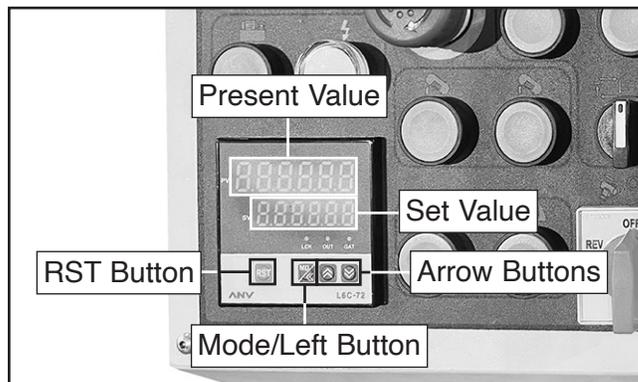

Figure 49. Digital counter controls.
11. Press Mode/Left button , then use arrow buttons  on digital counter (see **Figure 49**) to change set value (SV) to desired number of cuts to be made.
12. Push blade start button  to start cutting operation. During cutting operation, feed roller will automatically advance workpiece until it reaches proximity sensor, and digital counter will tally number of cuts completed in present value (PV) field (see **Figure 49**). Cutoff pieces will slide down chute after each cut is made.
13. When cutting operation is complete, press RST button (see **Figure 49**) on digital counter to clear counter display.